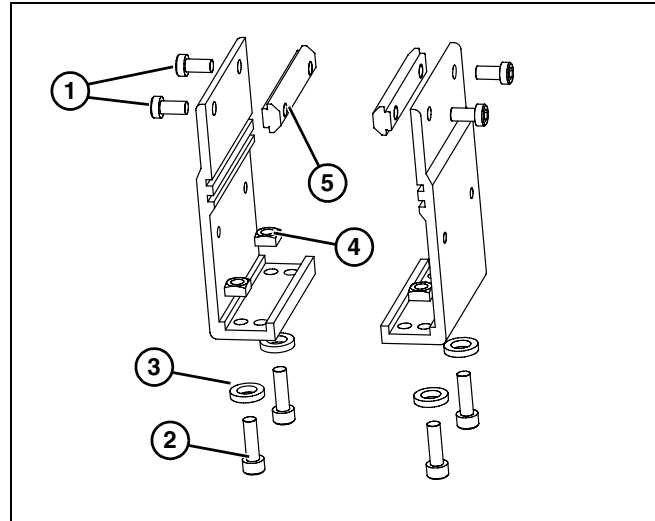
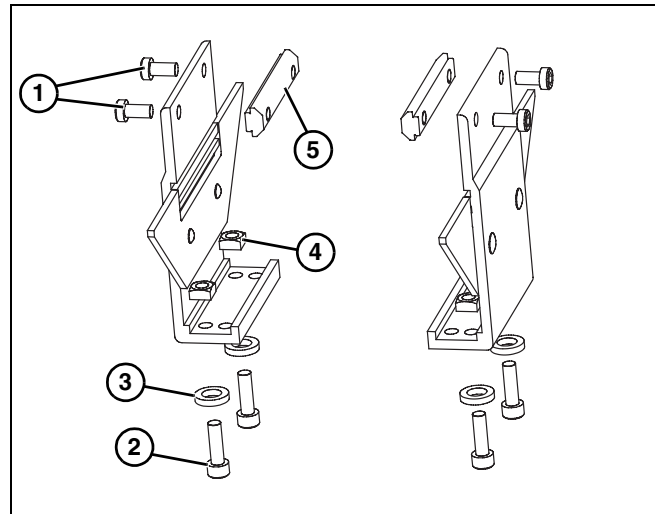
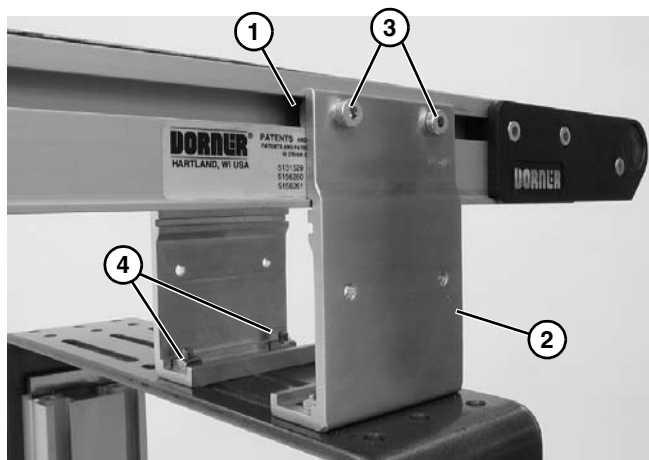

Figure 6
Figure 7
Figure 8
1. Locate brackets. Exploded views shown in **Figure 6** and **Figure 7**.
2. Remove screws (**Figure 6, item 1 and 2**) or (**Figure 7, item 1 and 2**), washers (**Figure 6, item 3**) or (**Figure 7, item 3**), nuts (**Figure 6, item 4**) or (**Figure 7, item 4**), and T-bars (**Figure 6, item 5**) or (**Figure 7, item 5**), from brackets.
3. Insert T-bars (**Figure 6, item 5**) or (**Figure 7, item 5**) into conveyor side slots (**Figure 8, item 1**). Fasten brackets (**Figure 8, item 2**) to conveyor with mounting screws (**Figure 8, item 3**).
4. Fasten brackets to support stand with mounting screws, washers, and nuts (**Figure 8, item 4**).
5. Tighten screws (**Figure 8, item 3**), and mounting screws on nuts (**Figure 8, item 4**) to 60 in-lb (7 Nm).